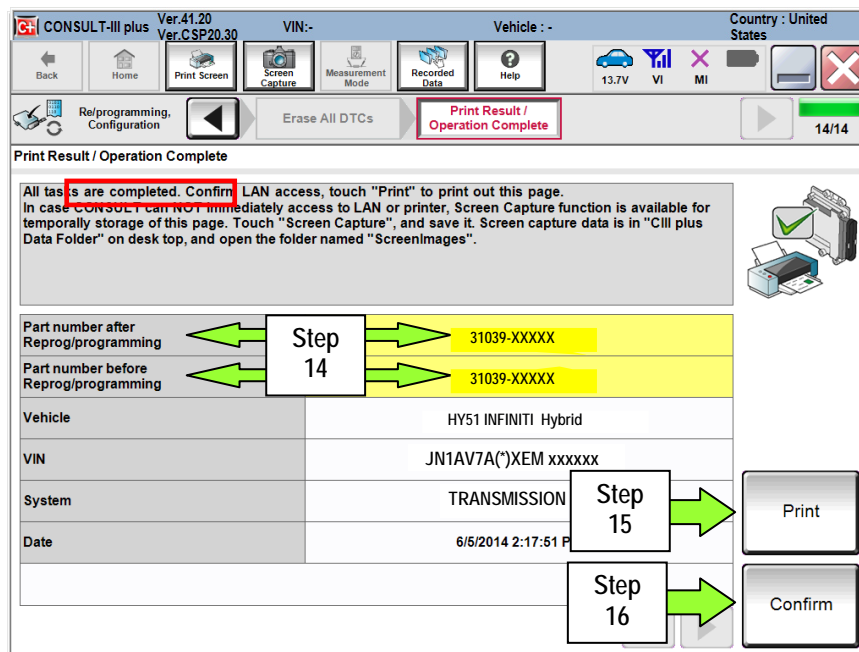

Figure 38
15. Print a copy of this screen (Figure 38) and attach it to the repair order.